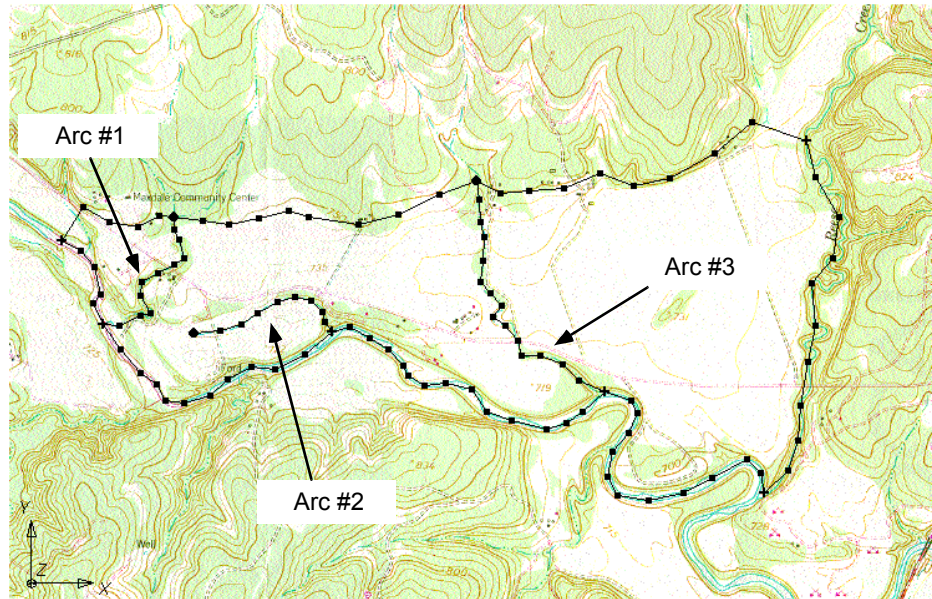

Figure 4-4 The Drain Arcs.
2. Create the arc labeled as arc #1 in Figure 4-4. Start by clicking on the bottom arc, create the arc by clicking points along the creek bed, and end the arc by double clicking on the top arc.
3. Create the arcs labeled arc #2 and arc #3 in Figure 4-4 the same way you made arc #1.